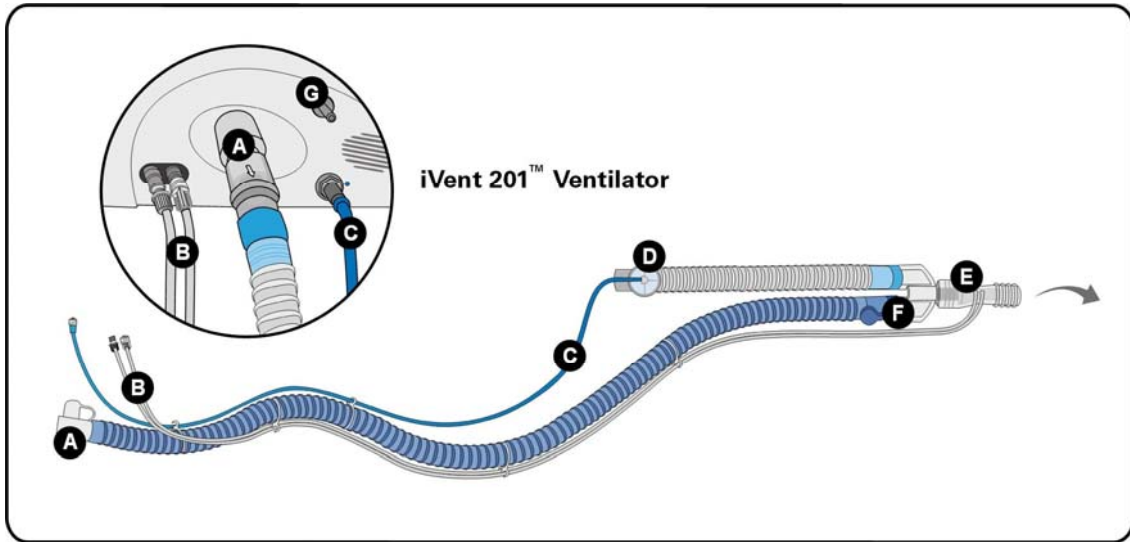

Figure 177: iVent™201 components
1. Connect the Inspiratory limb (Figure 177) to the iVent™201 outlet.
2. Connect the flow sensor tubing (clear tubes, B in Figure 177) to their ports. The male and female luer connectors on the flow sensor tubing ensure correct connections.
3. Connect the external exhalation valve control tube (blue tube, C in Figure 177) to its port.
1. Connect the nebulizer tube to the nebulizer outlet on the front panel of the ventilator (G in Figure 177).